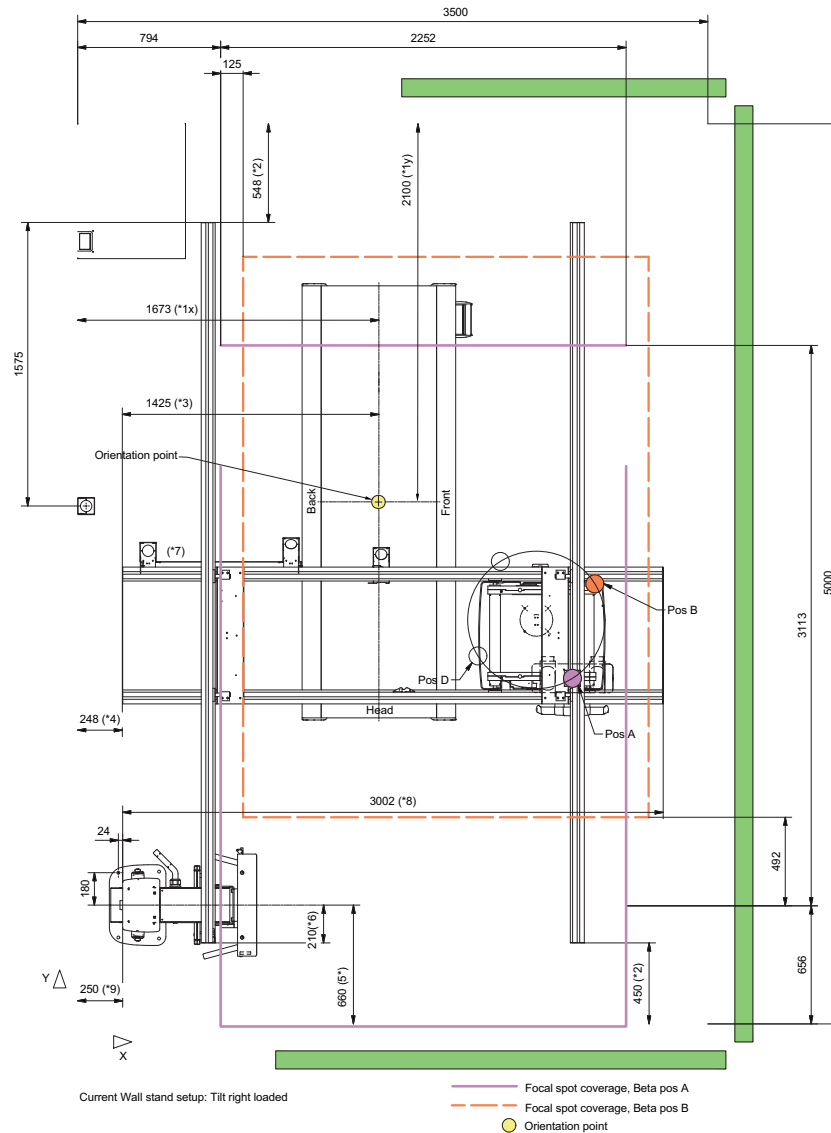

Figure 5-5
- **(*2)** is chosen due to the room size in layout 1 (*Figure 5-5*). It makes it possible to cover the table and horizontal wall stand when beta is in position A. **(*2)** must not be less than 100 mm.